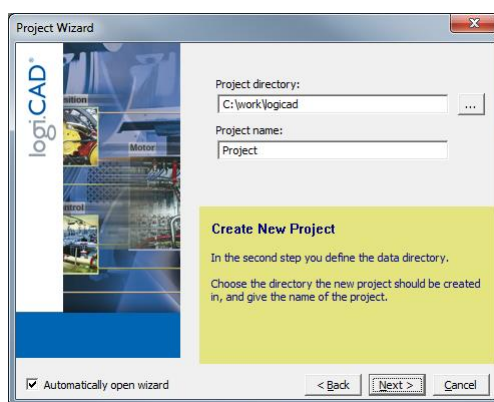

Figure 20: Project name and path
5. Specify the name of the project and the path where to store the project files, see Figure 20.